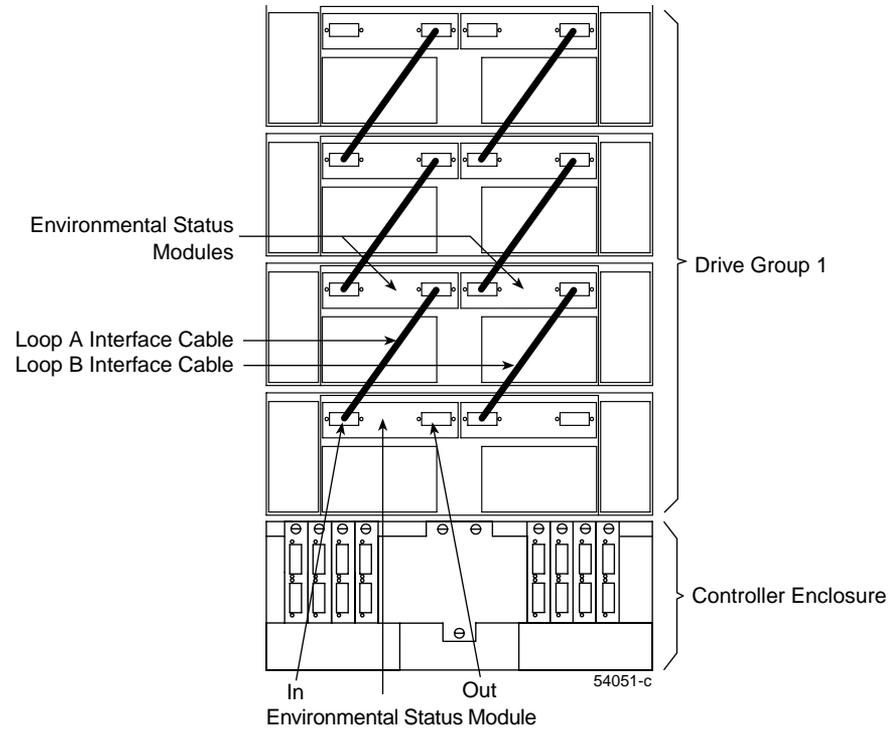

Figure 8-2 Connecting Additional Drive Enclosures to Drive Loops A and B
3. Connect additional drive enclosures to drive Loops A and B (Figure 8-2).